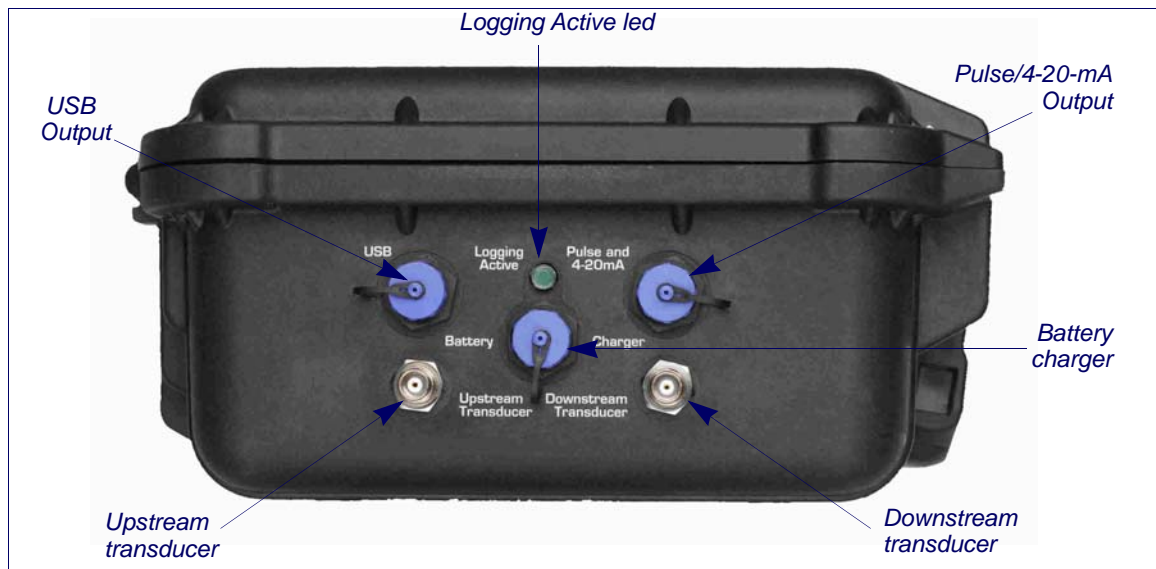

Figure 1.3 Instrument connections
The supplied battery charger is connected to the instrument by means of the centre connector on the side of the unit, as shown in Figure 1.3.
8. Connect the transducers to the Portaflow instrument using the coaxial cables provided. The illustration above shows the red sleeved lead connected to the upstream transducer and the blue lead to the downstream transducer. To measure a positive flow, connect the leads to the appropriate upstream and downstream TNC connectors on the side of the instrument – see Figure 1.3.